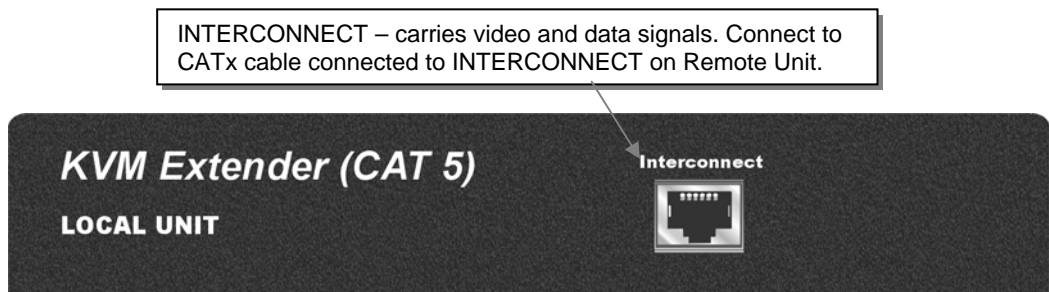

Figure 10 SDLink Local Unit – front view
5. Connect the CATx cable to the INTERCONNECT socket on the front of the Local Unit (see Figure 10).